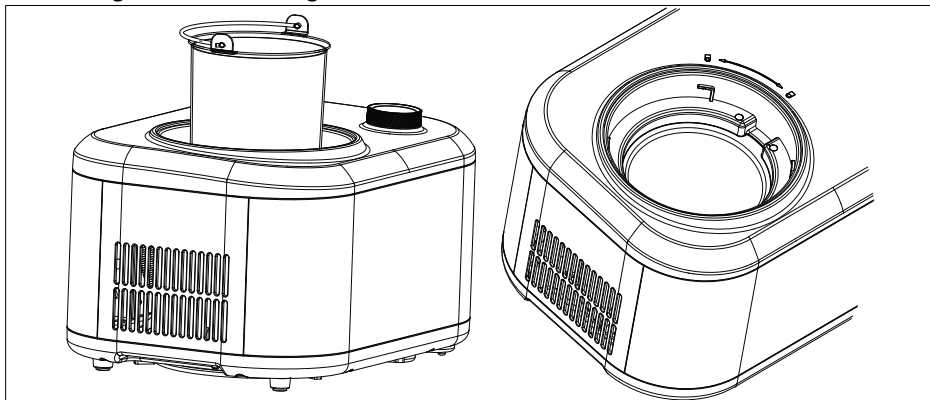

Fig. 4
- ▶ Place the aluminium container into the cooling chamber, with both ends of the aluminium container handle inserted in the recesses on the upper ring of the cooling chamber (see Fig. 4).